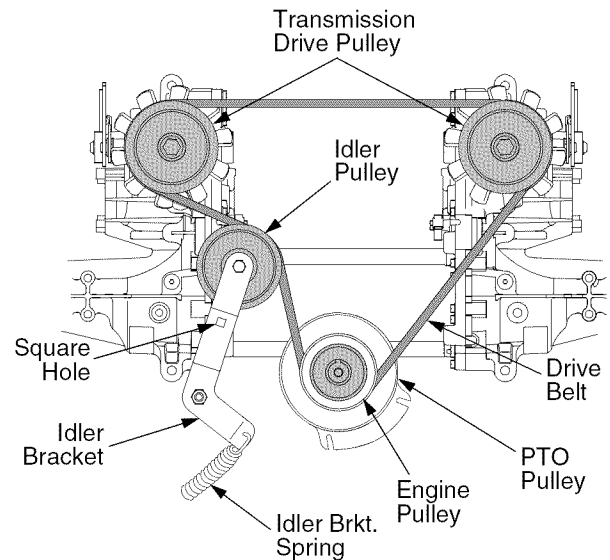

Figure 33
- From beneath the rear of the tractor, insert a 3/8 inch drive ratchet into the square hole of the drive idler bracket. See Figure 33.